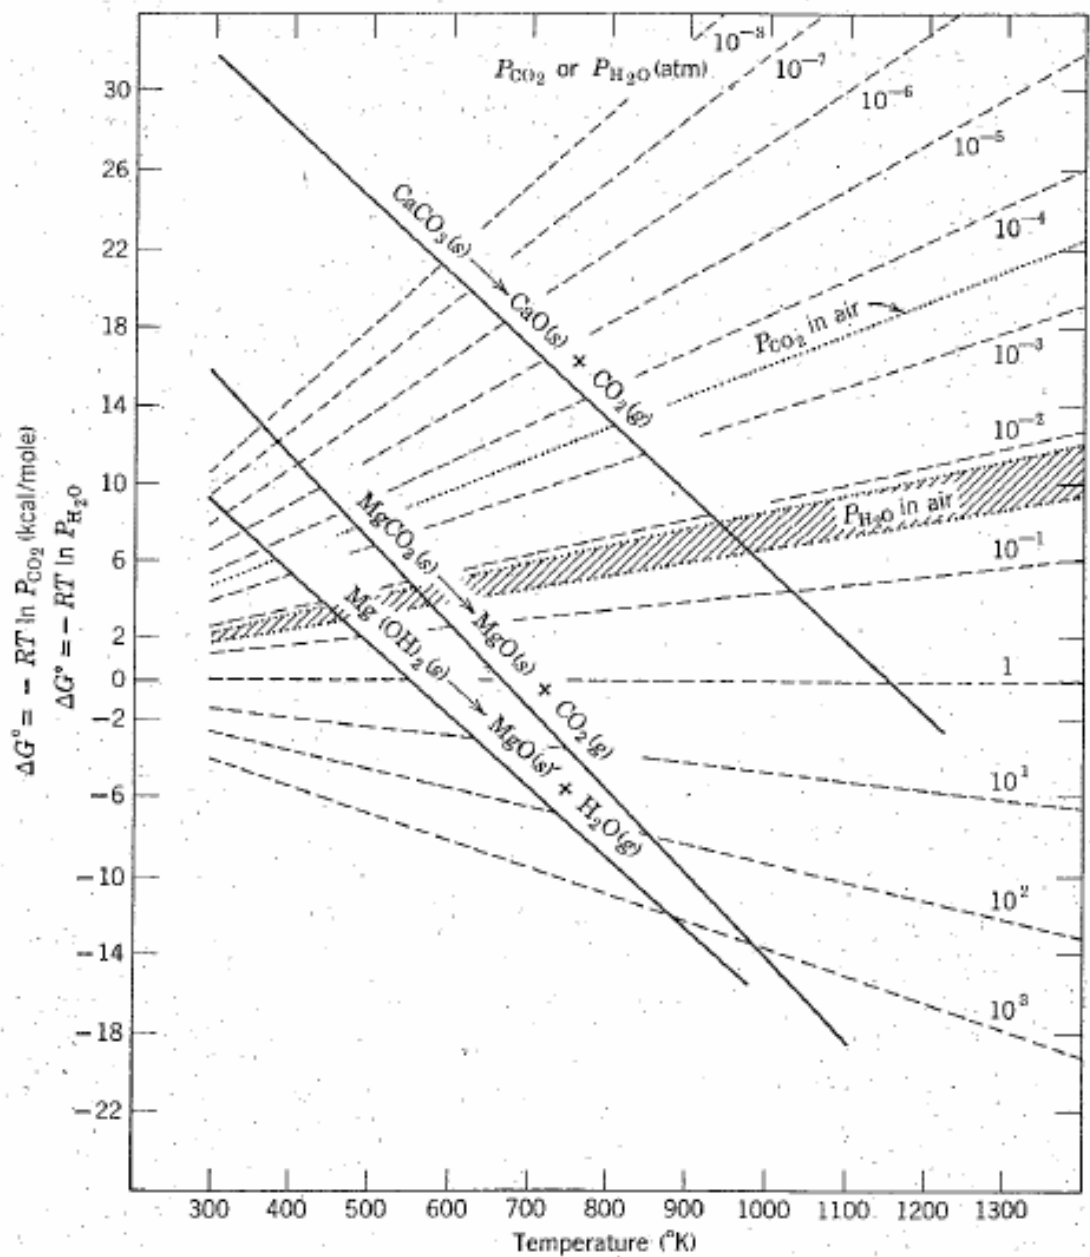

Figure 3.2: Thermodynamic data for Mg and Ca oxides and carbonates.
2) In the days before the industrial revolution the P_{CO_2} in the earth's atmosphere was 275 ppm. Use the data in Figure 3.2 to calculate how high one would need to heat $CaCO_3$ to decompose it at a P_{CO_2} for the preindustrial concentration of 275 ppm and for present day P_{CO_2} (You will have to look this up, please give your source). Also calculate how high one would need to heat $CaCO_3$ to decompose it if the CO_2 level in the atmosphere reaches 500 ppm.